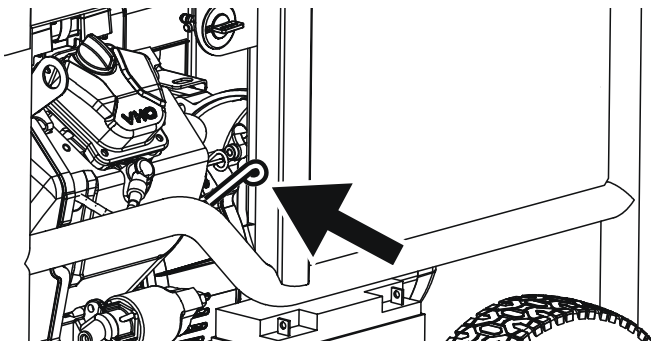

Figure 13 - Oil Dipstick
5. Remove oil fill dipstick (see Figure 13 below).